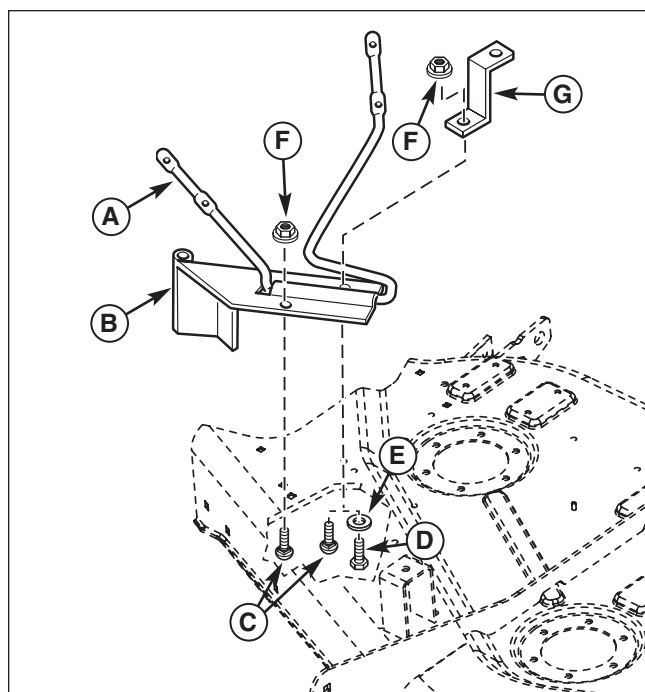

Figure 5. Install Deflector Hinge and Bracket
1. Slide the deflector support rod (A, Figure 5) into pivot bracket (B) as shown.
2. Secure the front of the pivot bracket (B) using 5/16-18 x 3/4 carriage bolt and 5/16-18 nut (F).
3. **38" Mowers** - Secure the back of pivot bracket (B) and support (G) using 5/16-18 x 3/4 carriage bolt and 5/16-18 nut (F).